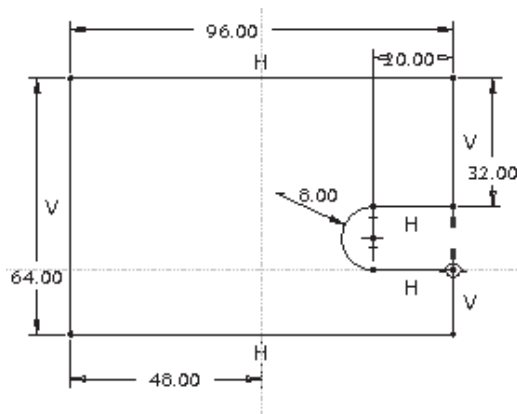
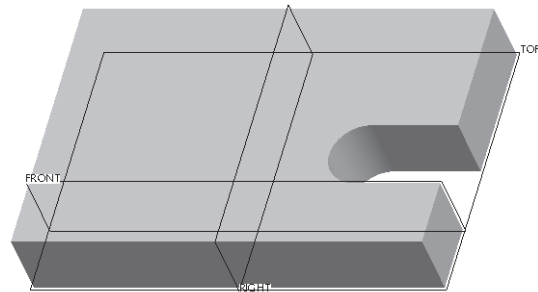

Figure 5-74 Sketch with dimensions and constraints for the base feature
Figure 5-75 Base feature of the model
- b. Create the base feature, refer to Figures 5-74 and 5-75.
The sketch for the base feature consists of a rectangular shape with a slot, as shown in Figure 5-74. When this sketch is extruded, it will create the base feature with the slot, as shown in Figure 5-75.
1. Draw the sketch using various sketcher tools and add the required constraints and dimensions to it. Modify these dimensions, as shown in Figure 5-74.
5. Choose the **Build feature** button from the **Extrude** dashboard. The base feature is completed and is shown in Figure 5-75. You can use the middle mouse button to spin the object to view it from various directions.